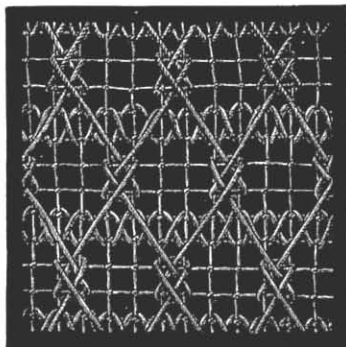

Fig. 44. Ground of intersected loop stitches.
**Ground formed of intersected loop stitches** (fig. 44). — Cover a whole row of squares with cross-stitches and skip three rows of stitches. When you have covered a sufficient